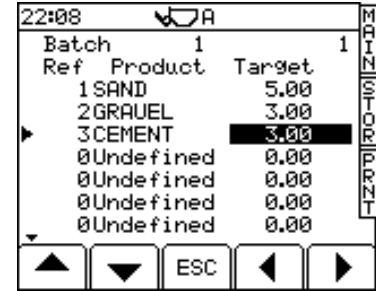

Figure 40
2. Select a batch number/name using the left/right arrow keys, then move the cursor down to the line "View Batch" and press ENTER to display the "recipe" page (fig.40).